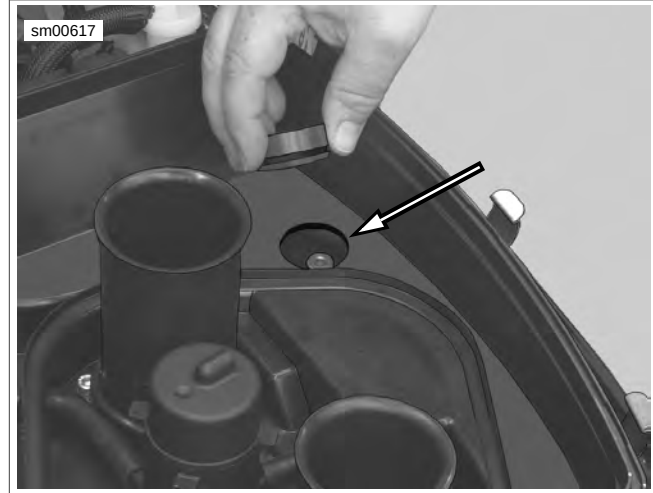

Figure 1-38. Air Bleed Plug
2. See Figure 1-38. Remove cooling system air bleed plug.